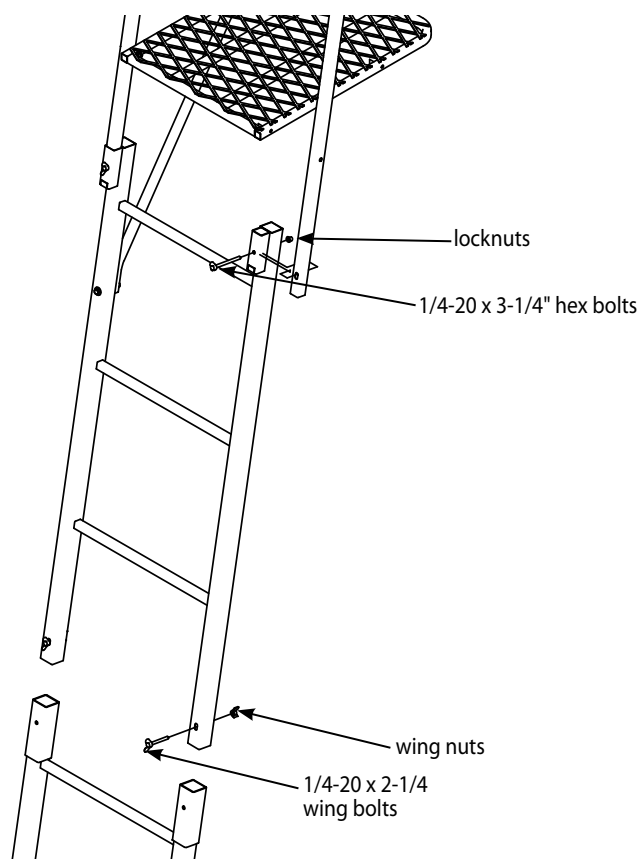

Figure 5
10. With all sections assembled together on ground, secure all sections together using (6) provided 1/4-20 x 2-1/4" wing bolts with wing nuts and (2) provided 1/4-20 x 3-1/4" hex bolts with locknuts. The longer 3-1/4" hex bolts must be used to connect the top ladder section and the assembled top platform section. **SEE FIGURE 5.**